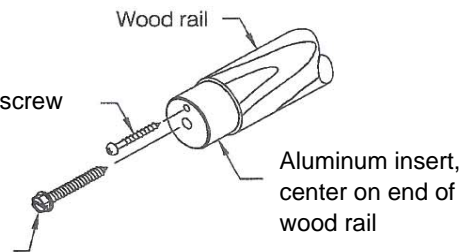

fig 4
Step 7: Install BRA-1625 aluminum insert using #14 x 2" hex washer head screw provided. Keep aluminum insert centered on wood rail while tightening. With aluminum insert in place, drill into wood approximately 3/4" using a #27 bit using the small hole provided in the insert as a guide. To prevent the insert from rotating, install #8 x 1-1/2" Philips round head wood screw (provided), see **fig. 4**.